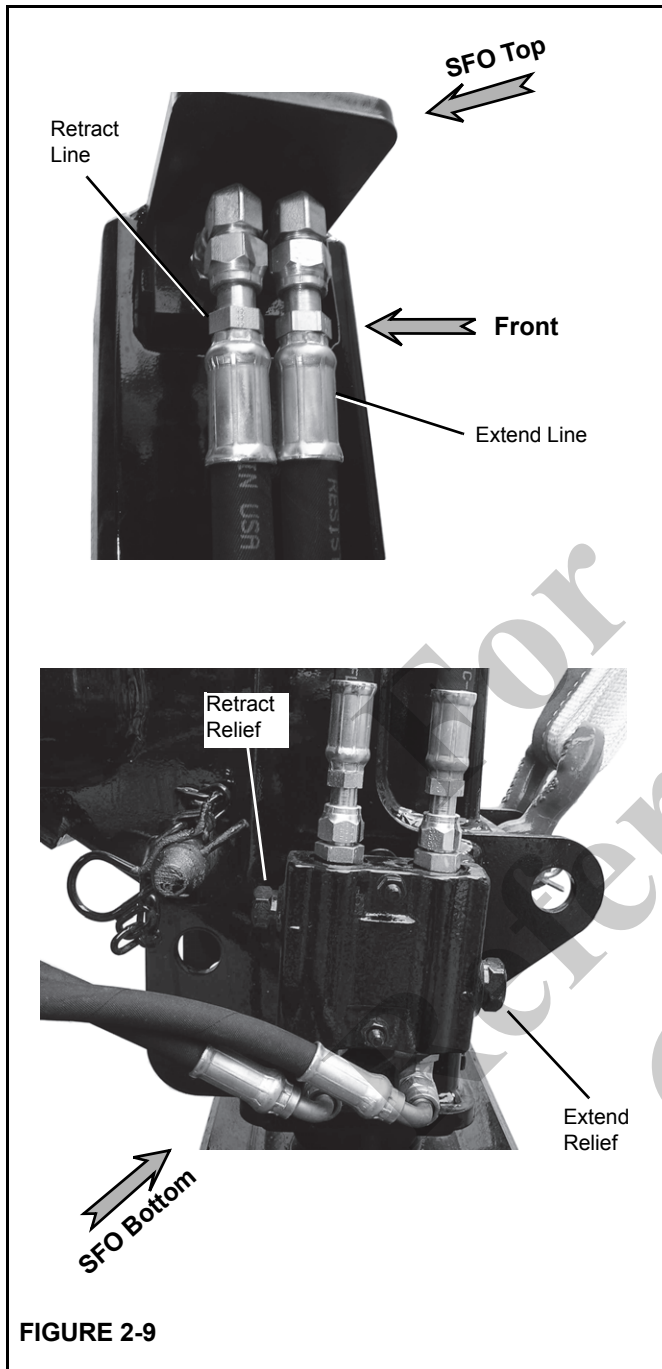

FIGURE 2-9
1. Disconnect the SFO extend and retract lines (Figure 2-9). Cap the retract line and install a gauge in the extend line.